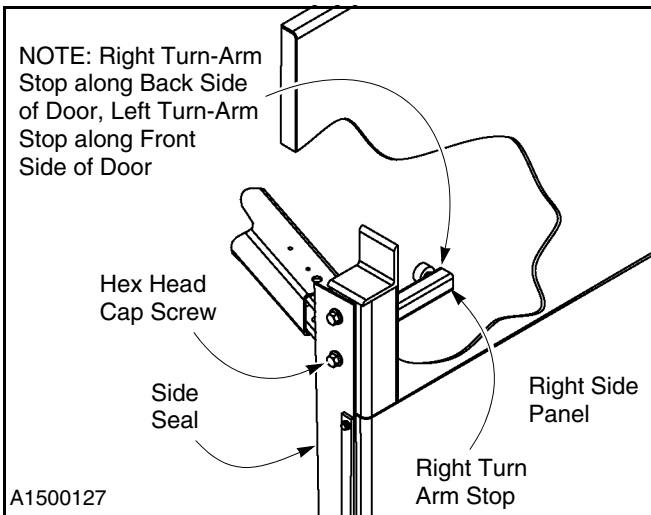

Figure 68
2. To replace a side seal, first remove the turn-arm stop from the side panel. The stop is held in place by two hex head cap screws, flat washers, and serrated flange nuts. Save all hardware for later use. (See Figure 68.)